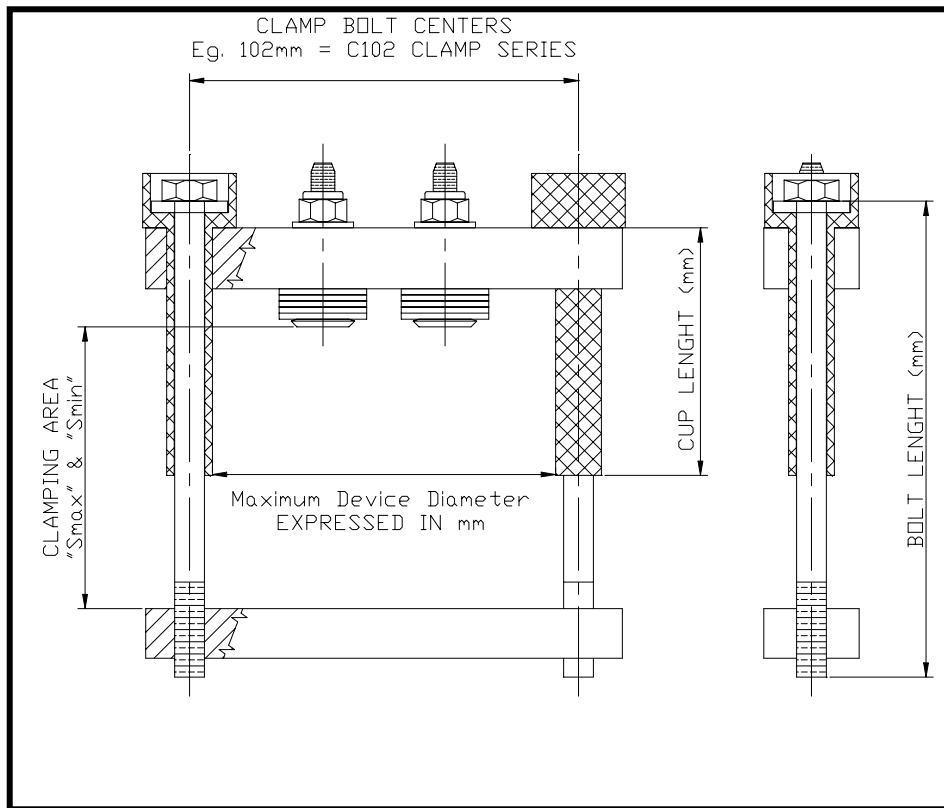
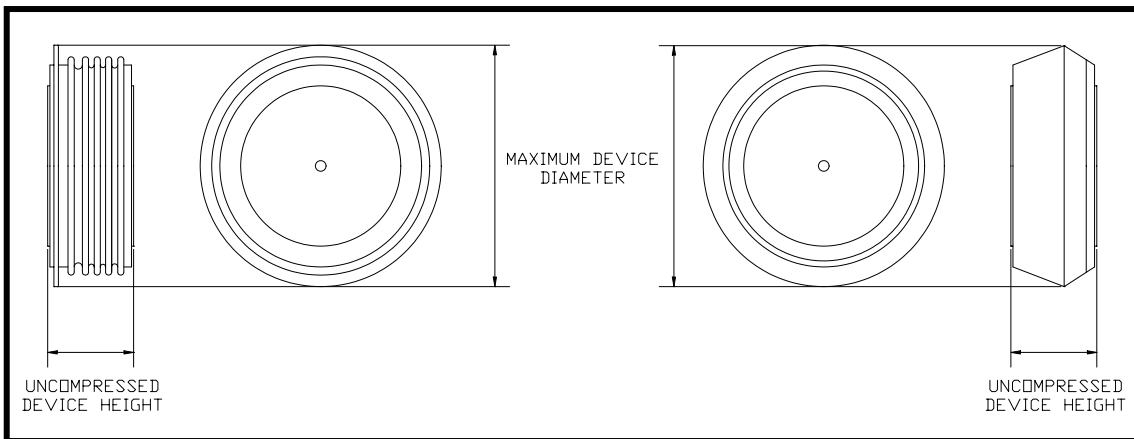

Fig.1
Fig. 2
DEVICE DIAMETER – This is the diameter of the largest portion of a device. Some semiconductor devices are designed to have a lip that is larger than the actual device. This would have to be the diameter used in the clamp selection process. (See Fig.2)
DEVICE THICKNESS – This is the overall thickness of the device. Some semiconductor manufactures provide you with compressed and uncompressed thickness dimensions. This would be valuable in ensuring that in the clamp selection process we do not exceed the Maximum and the minimum clamping area dimensions (“Smax” and “Smin”). For more details on “Smax” and “Smin” please see the description note on *clamping area*. . (See Fig.2)
INSULATOR CUP LENGTH – The insulator cups are available at various standard lengths and can also be ordered for your specific needs. The tables describing our standard lengths can be found on the actual drawings for each specific clamp. Table 2 shows some of the standard cup lengths (dimension ‘A’) in these tables. The same tables will provide you with “S max” and “S min.” values. (See Fig.1 & Table2)
For *direct replacement*, selection you need to know the following information about the existing clamp, before selecting a clamp. (See Fig.1, Fig.2 & Table 1)
For **replacement with modification**, You need to know the following information about your clamp and system. (See Fig.1, Fig.2 & Table 1)
For **new design**, You need to consider not only the selection items for the previous two types of selection criteria, you also need to consider allowing room for future system expansions or to facilitate servicing of the equipment. (See Fig.1, Fig.2 & Table 1)
1. First, we need to look at device diameter and determined the required clamps bolt spacing. Looking at Table 1 and Fig.2 we can note that the smallest clamp spacing we can use is the **C090** series. This clamp will allow for our device diameter of up to 75mm.